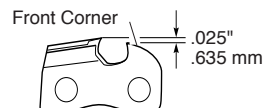

Figure 25 - Round Off Front Corner Of Depth Gauge
3. Remove depth gauge tool. With flat file, round off front corner of cutter depth gauge (see Figure 25).